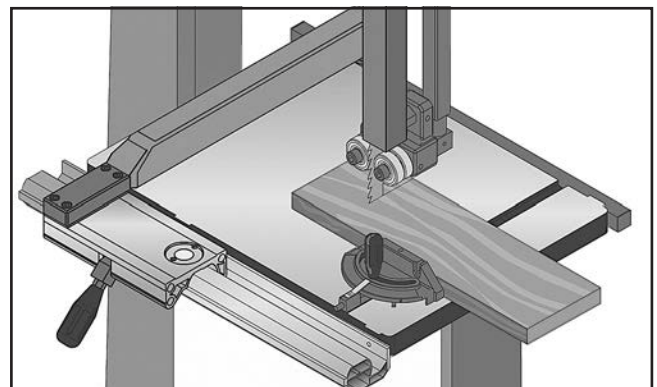

Figure 39. Example of a crosscutting operation with the miter gauge.
5. After all safety precautions have been met, turn bandsaw **ON** and wait for it to come to full speed. Slowly feed workpiece into the blade until blade is all the way through workpiece. **Figure 39** shows an example of a crosscutting operation.